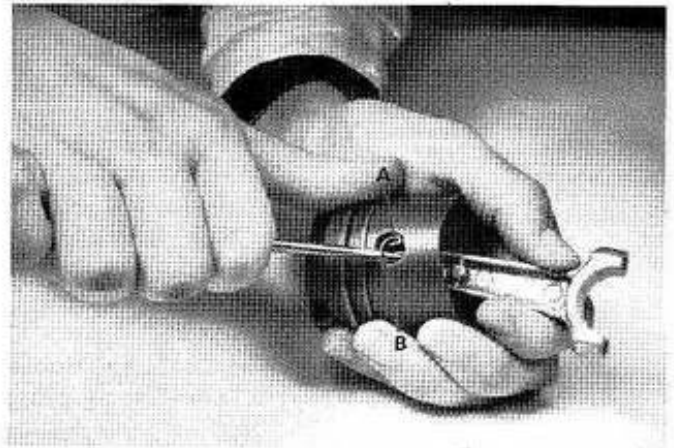

Figure 71. Disassembly of Rod and Piston.
- a. Remove the retaining rings (A) from both sides of the piston. (See Figure 71.) Then placing a drift in the hole in the piston pin (B) gently tap the drift until the pin is removed.